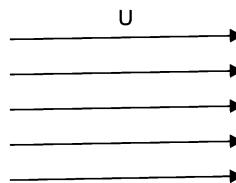

Fig. 5.27 (a)
5.13.1 Uniform Flow Parallel to x -Axis. Fig. 5.27 (a) shows the uniform flow parallel to x -axis. In a uniform flow, the velocity remains constant. All the fluid particles are moving with the same velocity.